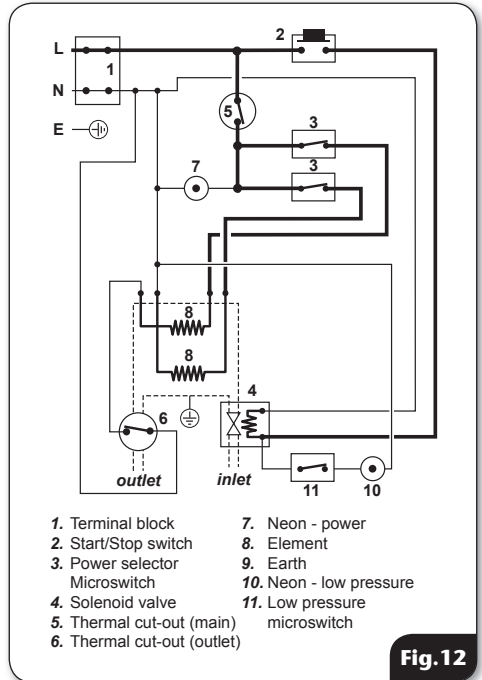

Fig. 12
- **Fig. 12** shows a schematic wiring diagram.